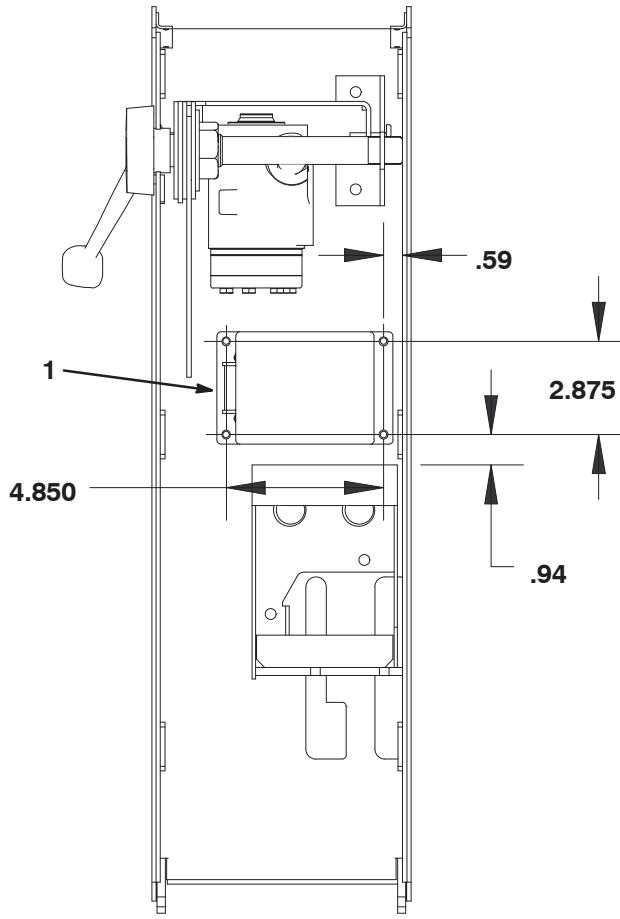

Figure 11
Note: If the mounting holes for the dual rate flasher are not in the steering tower, use the dimensions shown in figure 11 to locate, mark and drill (4) .203" dia. mounting holes.